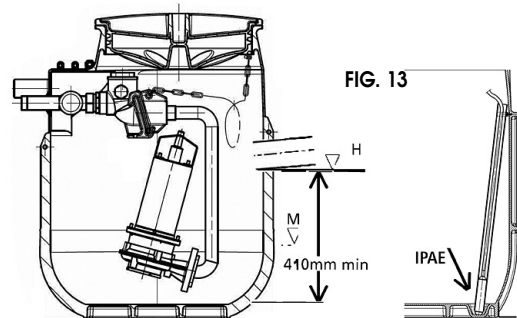

FIG. 13
- In the control unit, set the APS trip levels. The minimum setting values may be the following (for an APS positioned at the bottom of the tank and the pipe of arrival of the waste positioned like above - FIG. 13) :